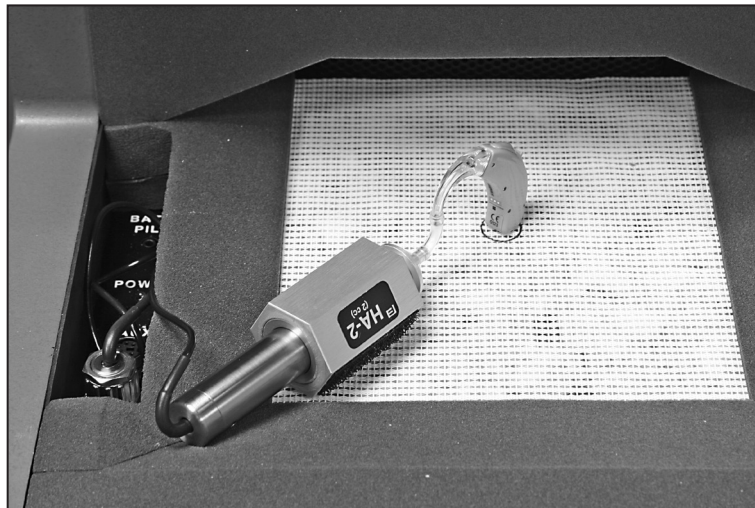

Figure 3.4.10A—Testing with the Sound Chamber Telecoil Board
7. Position the hearing aid for maximum output. For BTE hearing aids, this usually occurs when the body of the aid is in a vertical position. If necessary, use Fun Tak to help hold the aid in that position. See Figure 3.4.10A.